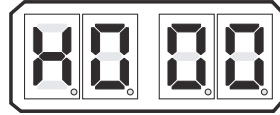

Figure 10-7: Display Troubleshooting Function
- C Depress the Up or Down Push Button repeatedly until H000 is displayed like Figure 10-7: Display Troubleshooting Function.